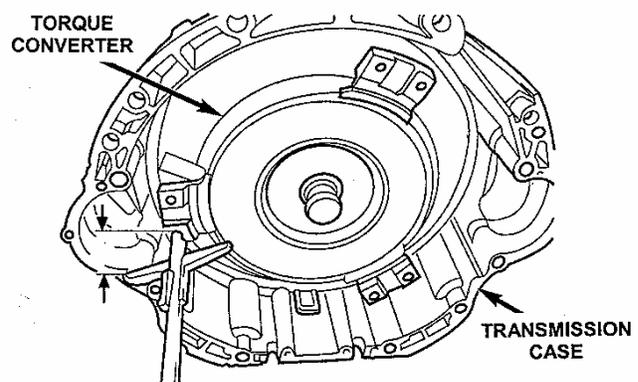

Figure 9
31. Check the converter for proper seating with a straightedge. The surface of the converter lugs should be at least ¾ inch (19mm) to the rear of the straight edge when the converter is fully seated (Figure 9).